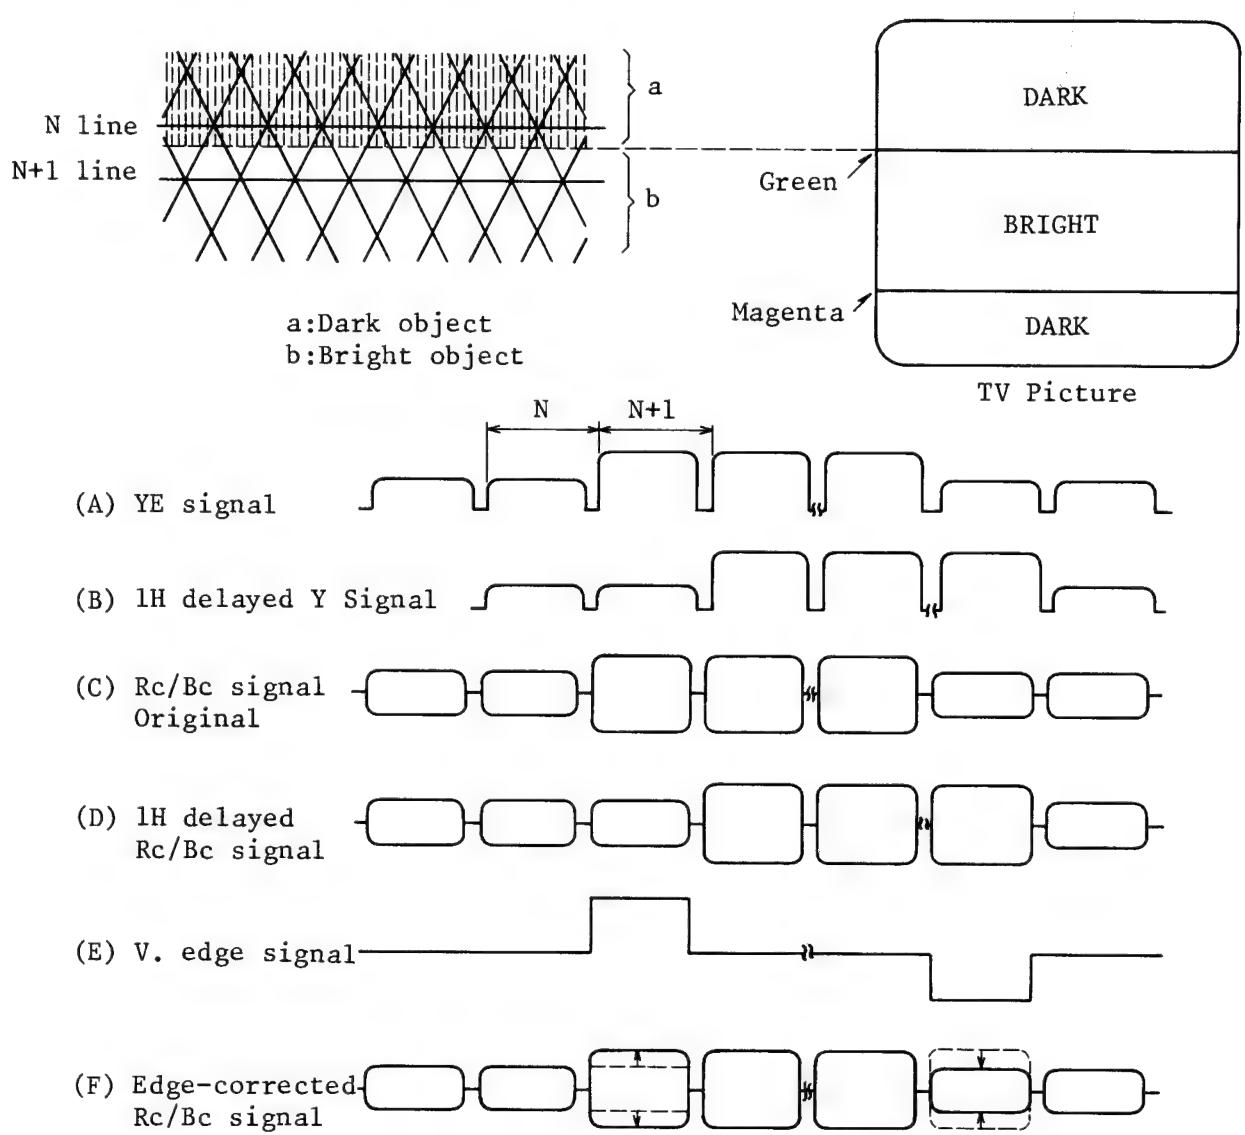

Fig. 19. Color Correction
When the camera views a dark-to-bright, or bright-to-dark transition as shown in Fig. 19, the undelayed Rc/Bc signal appears as in Fig. 19 (C), and the Rc/Bc signal delayed one line (1H) appears as in (D). When we make the transition from dark to bright the Rc/Bc (C) and (D) signals are not of equal level on the N + 1 line and an error signal (green) is created along the vertical edge of the transition.